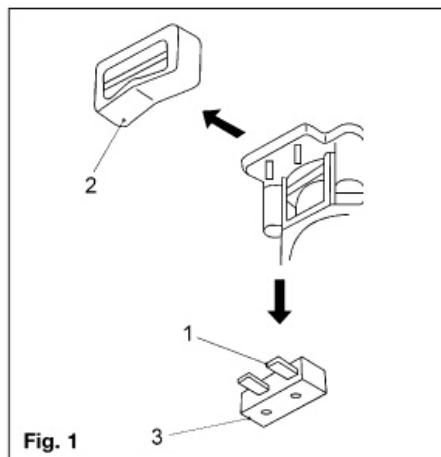

Fig. 1
3. The microswitch should slide off the two retaining pins. Be careful not to break the pins off (see fig. 1).